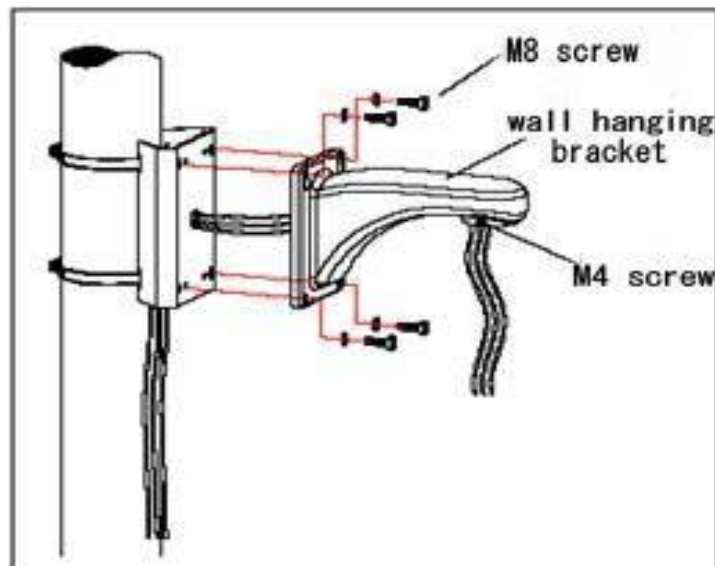

Fig 17
b. As shown in fig 17, fix the wall hanging bracket with all cables through it on the pole mounted attachment.